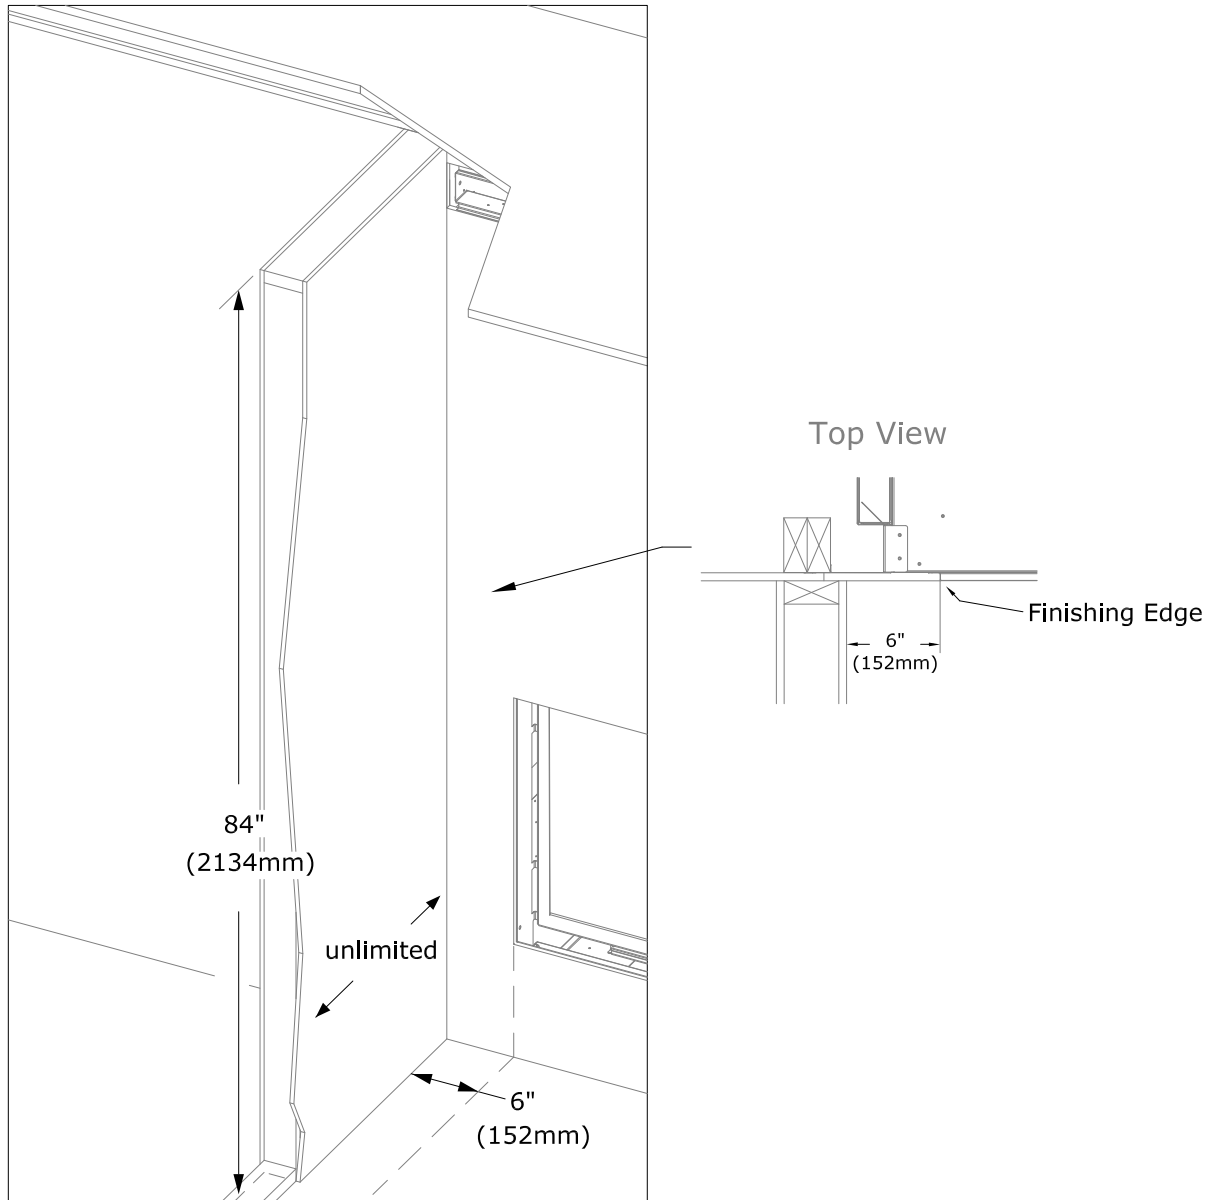

Figure 3.10 - Nordik 48TL Combustible Sidewall Requirements
- Mantel Leg: Follow "Combustible Sidewall Clearance" below. See Figure 3.10.
- Combustible Sidewall Clearance: The adjacent sidewall projection is unlimited and starts at 6" (152mm) from the side of the fireplace. See Figure 3.10.
- Figure 3.10 shows the unlimited sidewall projection where it is the minimum of 6" (152mm) away from the side fireplace finishing edge. This places the sidewall flush with the KZK plenum opening. If you are using the KZK discharge trim provide an extra 1/2" clearance so your sidewall would be located 6-1/2" (165mm) away from the side fireplace finishing edge.